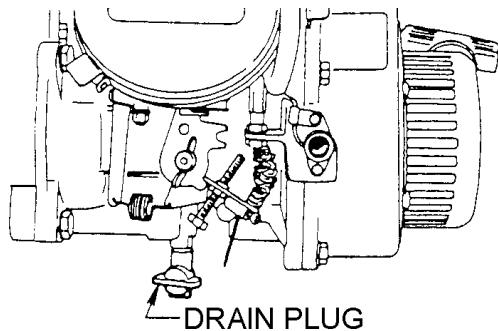

Figure 8. Drain Plug
7. If the carburetor is flooded or the crankcase is loaded with excess fuel, open the drain plug as shown in (Figure 8) and drain out excess fuel.